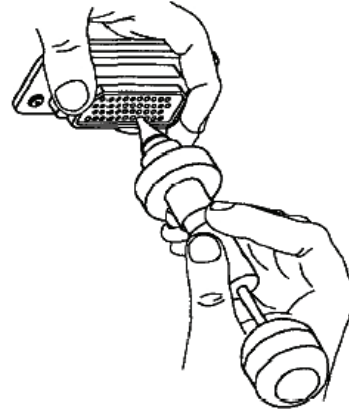

Figure 17. Unlocking Contact Retention Mechanism
- e. Insert removal tool tip into contact cavity to butt contact wire barrel; then slide removal tool sleeve over contact and exert pressure until sleeve bottoms (Figure 17).